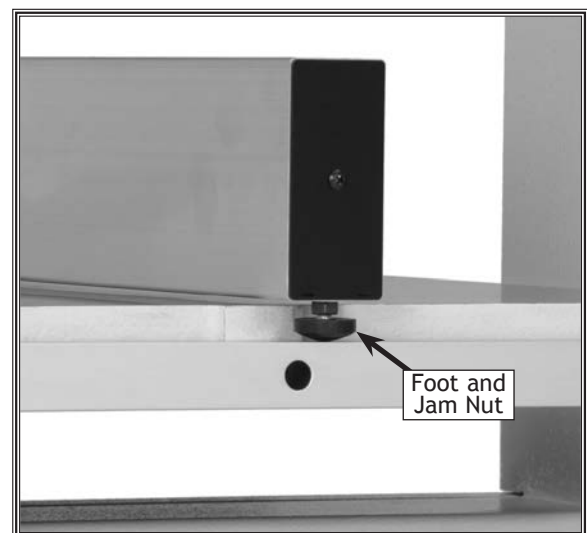

Figure 21. Fence Foot.
- If the gap between the table surface and the underside of the fence is not approximately $\frac{1}{8}$ " or the gap is not equal from front to rear; adjust the front rail up or down, and loosen the jam nut and move the fence foot up or down (see **Figure 21**).